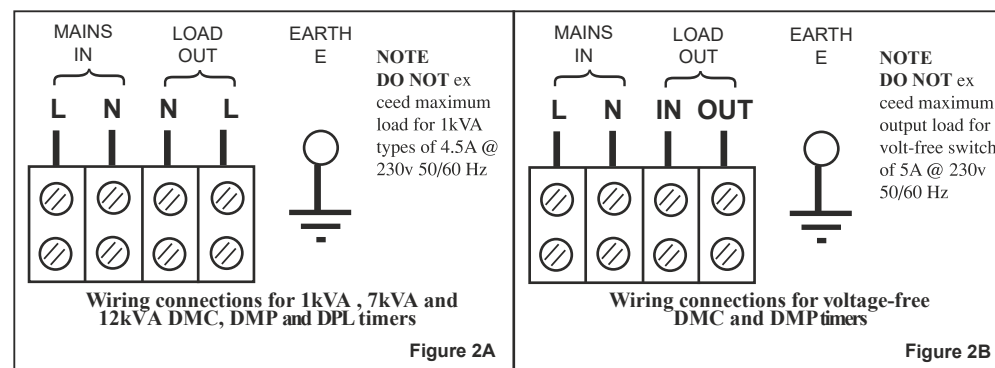

Figure 2 Input wiring connections
- v. Using a fused double pole switch for the mains input, wire th shown in Figure 2. **IMPORTANT.** With 24V, VF (voltage-free) and 1kVA models use cable of cross sectional area not less than 1.0 mm2 and fuse at 5A. With 7kVA rated models use cable of not less than 6.0 mm2 and fuse as appropriate up to a maximum of 30A. For 12kVA rated models use cable of not less than 10 mm2. The use of 20 mm conduit is recommended (use male thread adaptor with lock-ring e.g. Egatube type EMA/2). Alternatively fit a 20 mm nylon compression cable gland to provide strain relief.